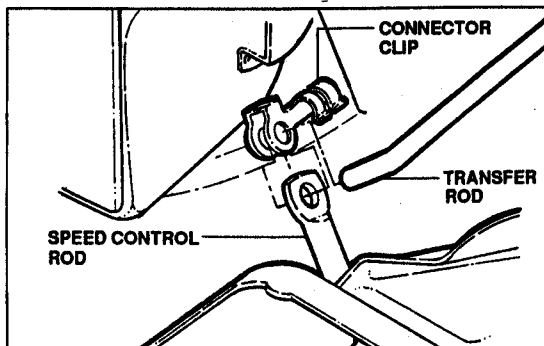

FIGURE 3.15
- (a) Using a small flat blade screwdriver, free the clip from the transfer rod. Then remove the transfer rod from the clip and the speed control rod. See Figure 3.15
- (a) Prior to folding handles on self-propelled models, disconnect the transfer rod clip. See Figure 3.15.